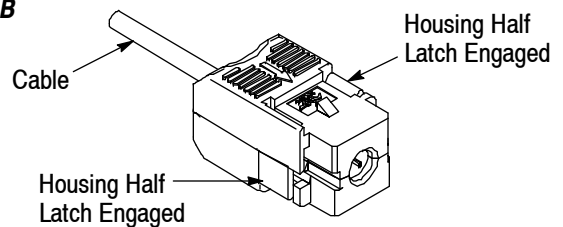

Figure 5
1. Lay the plug assembly in the nest of one half of the housing. Orient the plug so that the mating end is facing in the same direction as the embossed arrow on the outside of the housing. Make sure that the plug body is sitting in the grooved cutout. See Figure 5, Detail A.
2. Fit the housing halves together so that the alignment tabs enter the alignment slots (both halves have one of each). Make sure that the plug assembly is still properly positioned, and squeeze the halves together until the latches (both halves have one) engage the other half. See Figure 5, Detail B.